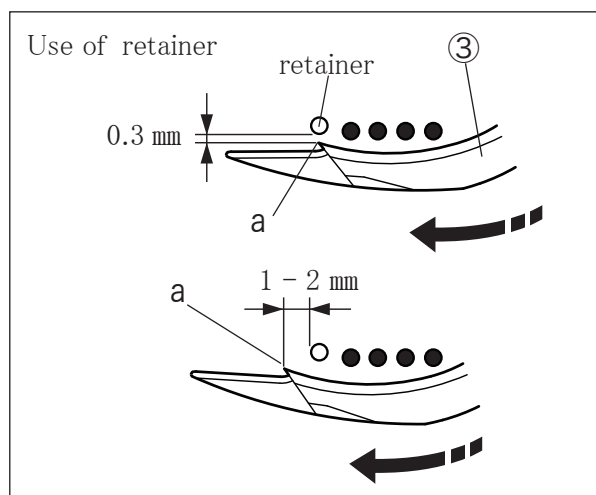

Fig. 6-33
When the spreader ③ moves from right to left, make the clearance between the left needle and hook “a” to 0.3 mm , and when it has reached the extreme left, make the distance between the left side of the left needle and the hook “a” to 1 - 2 mm .(Fig. 6-33)